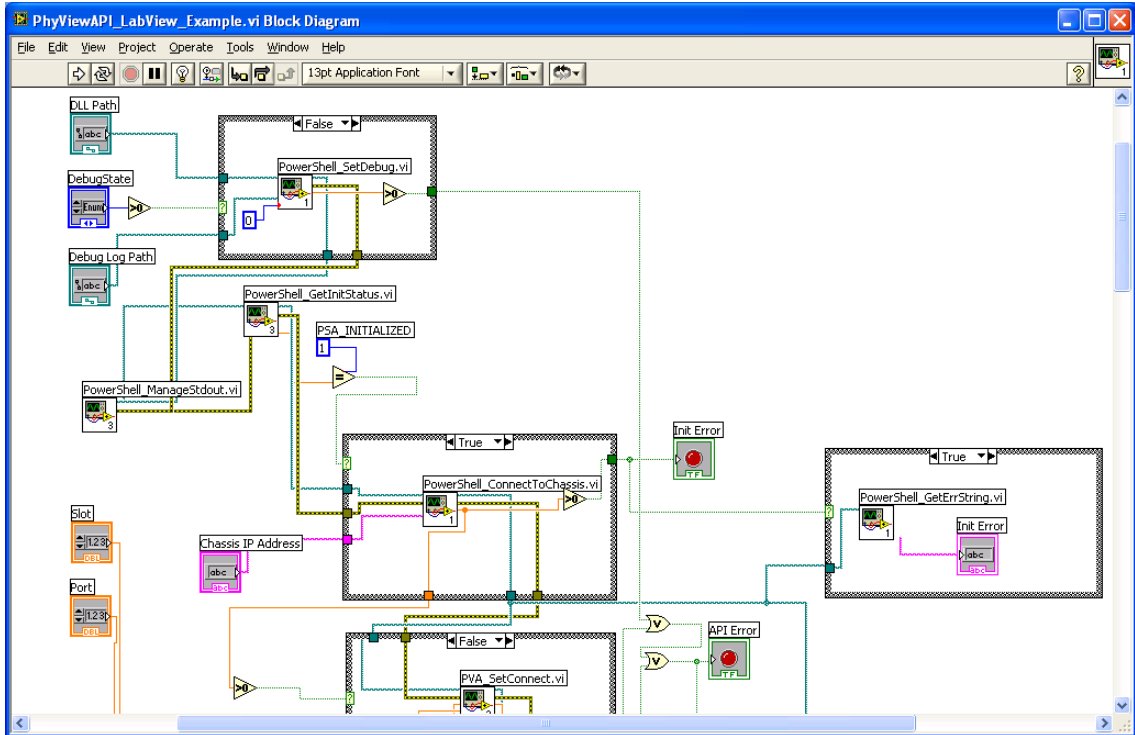

Figure 5.4-3
**NOTE:** as described above, once the DLL has been loaded and successfully initialized, the `PowerShell_Init` function cannot be called again for the lifetime of the LabView process that loaded the DLL. The example program contains logic that uses the return value from the function `PowerShell_GetInitStatus` to determine whether or not the API library has been previously initialized. If yes, then the init function can be bypassed. The example program shows an alternative, where the TRUE case includes a call to the `PowerShell_ConnectToChassis` function if the library is detected as being already initialized. This is illustrated in the Block Diagram shown in Figure 5.4-3.